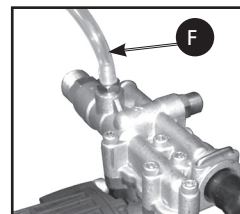

Figure 19
How To Apply Chemicals/Cleaning Solvents (Figure 19)
1. Ensure detergent siphon hose (Figure 19) is attached to barbed fitting location near high pressure hose connection of pump as shown.